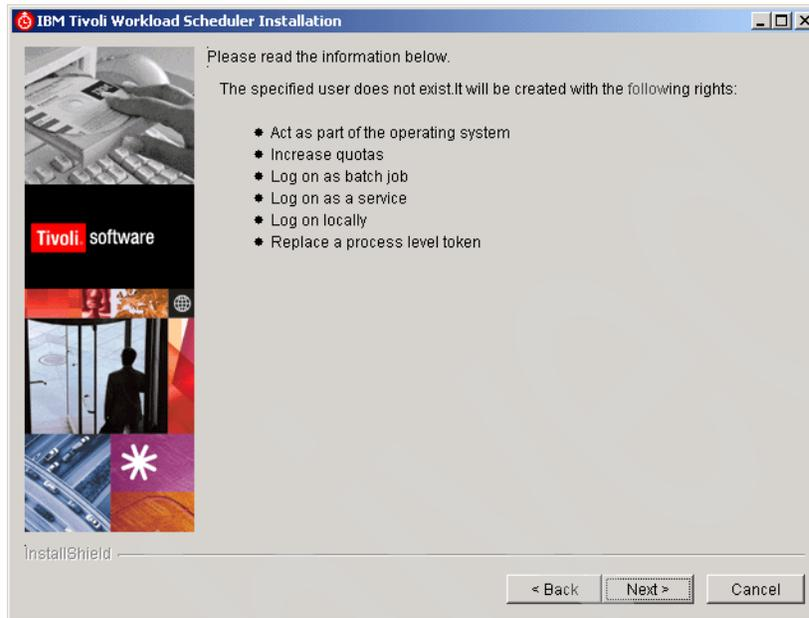

Figure 15-23 IBM Tivoli Workload Scheduler Installation new user
6. Because this is a new installation, the window in Figure 15-23 appears, specifying that the user that you just created does not exist and will be created with the rights shown.